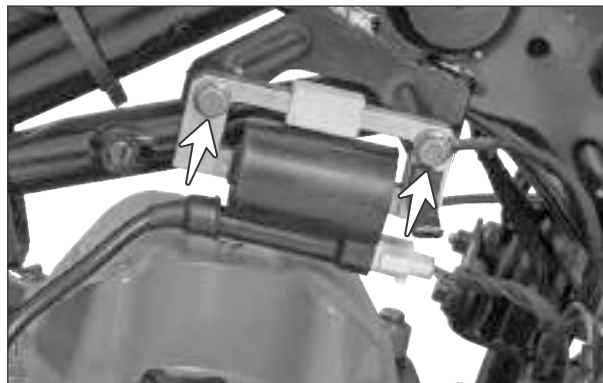

Fig. 2.48
- Remove the hexagonal flange bolt (M6x20 - 2 nos.) mounting the ignition coil assembly with the frame. (Fig. 2.48)